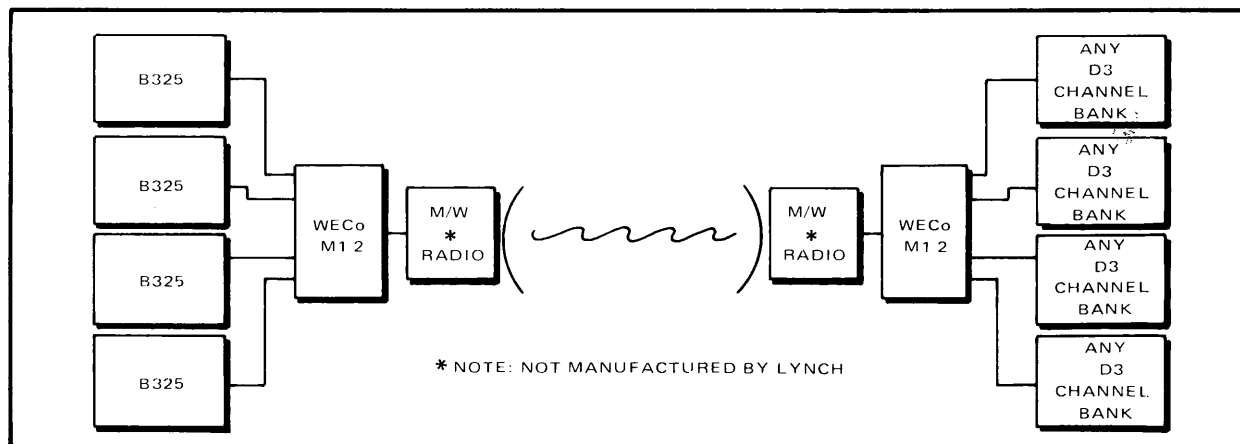

Fig. 5—Microwave Radio Applications
2.08 See Fig. 5. Four B325 terminals (96 channels) will operate end-to-end with any four